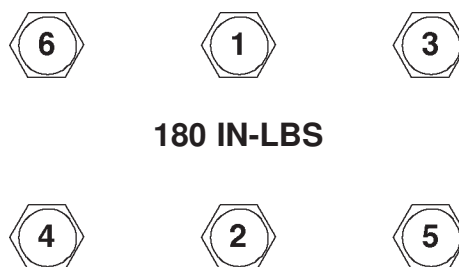

FIGURE 2. CYLINDER MOUNTING BOLT TORQUE SEQUENCE
- XVI. Slide the cylinder down until it mates with the crankcase. Start all cylinder mounting bolts, until they are snug. Torque the bolts to 180 in-lbs in the sequence shown. Do not torque to the full 180 in-lbs all at once, but in 25-50 in-lb increments. See Fig. 2.